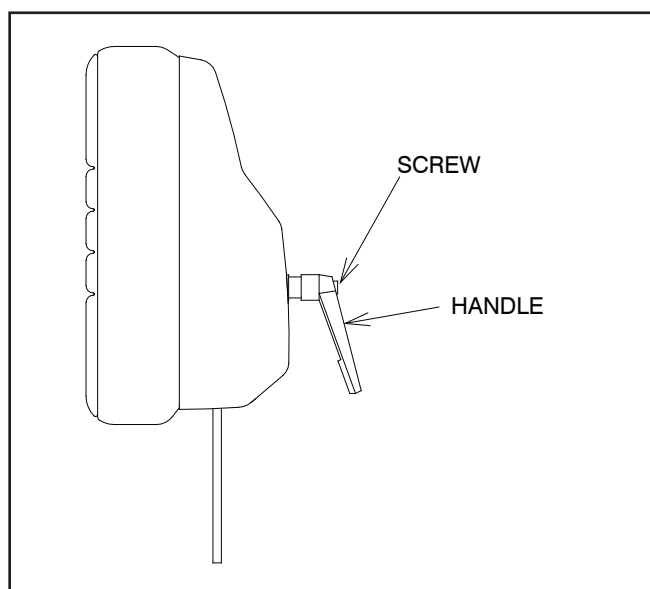

FIGURE 5
3.9.5.1. A single handle on the rear of the No. 11, 21, 31 headrests controls the locking mechanism. To unlock, grasp the handle and turn counter-clockwise. Change the tilt of the headrest until it is in the desired position. To lock, turn the handle clockwise until snug. (See Figure 5, No. 11 Headrest shown)
3.9.6.1. The handle on the outermost knob can be adjusted to any preferred, locked position. Simply push in on the large screw while pulling out on the handle. Rotate as desired, and release. (See Figure 5, No. 11 Headrest shown)